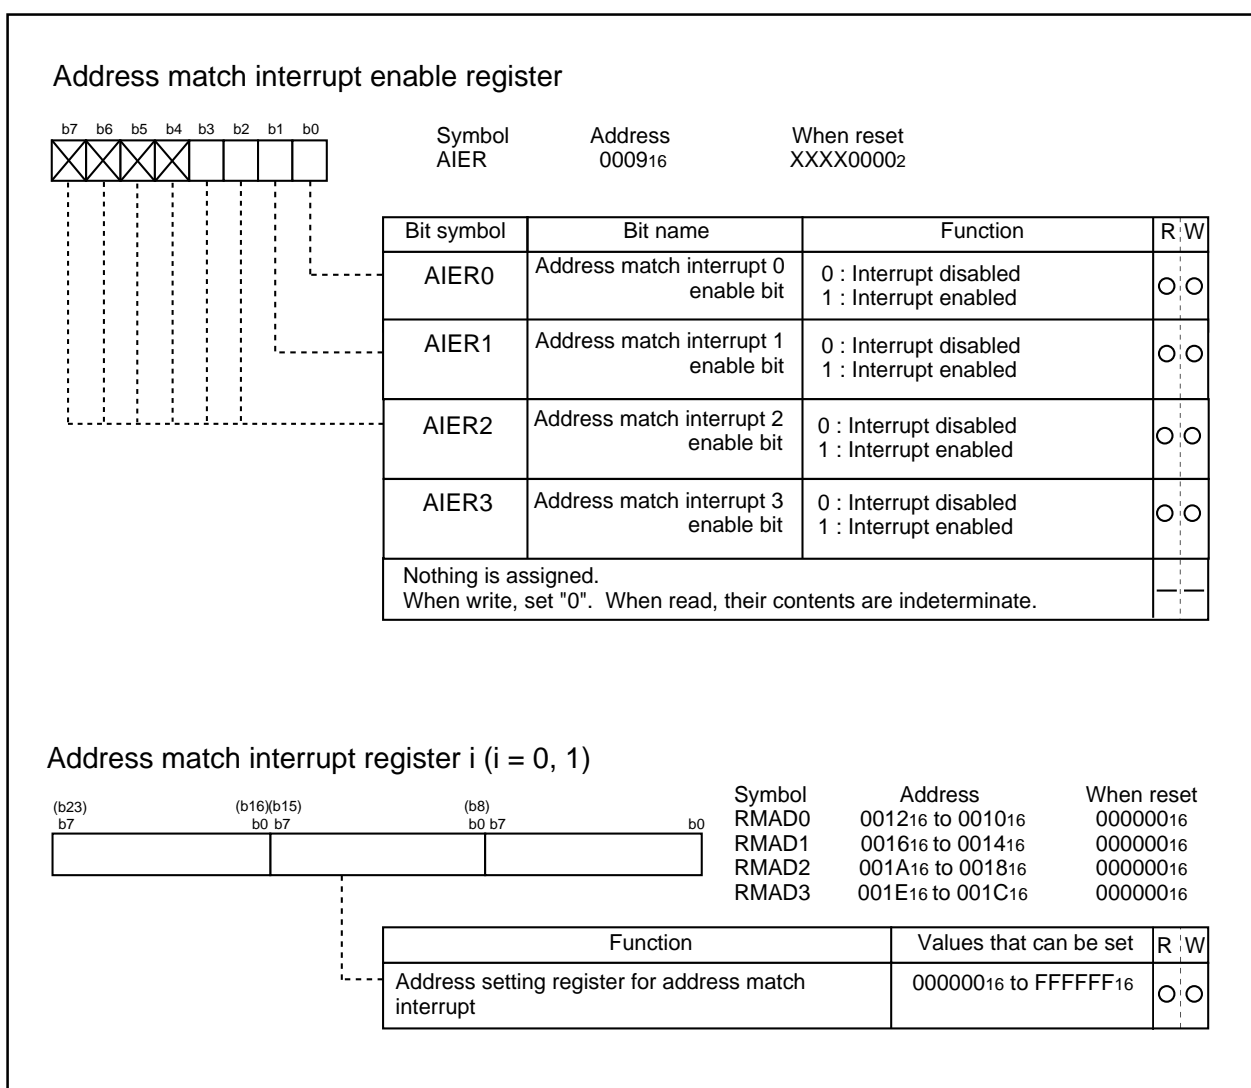

Figure 1.9.12. Address match interrupt-related registers
Figure 1.9.12 shows the address match interrupt-related registers.
- When the polarity of the INT₀ to INT₅ pins is changed, the interrupt request bit is sometimes set to "1". After changing the polarity, set the interrupt request bit to "0". Figure 1.9.12 shows the procedure for changing the $\overline{\text{INT}}$ interrupt generate factor.